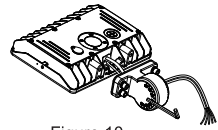

Figure 10
Step 1: Separate the bracket with tool(Figure 10);